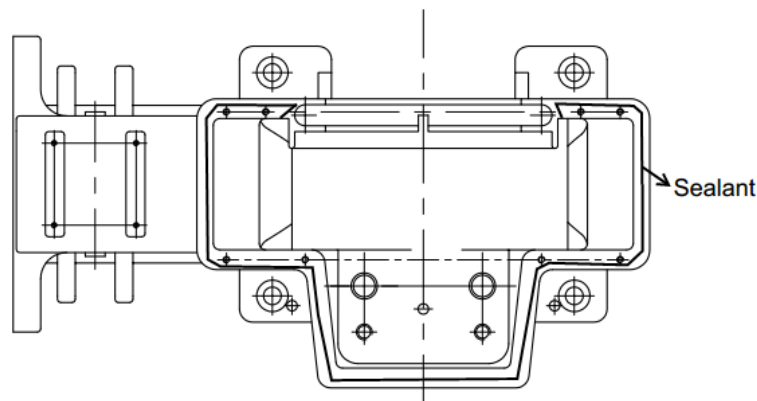

Figure 30 Adding sealant to the gear case
13. Apply sealant on gear case's mating surface with the top gear case. See Figure 30.